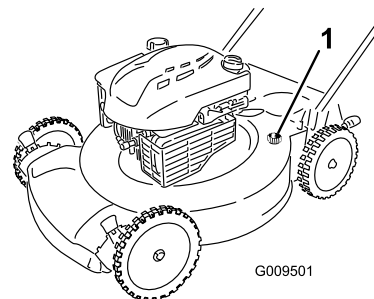

Figure 26
4. Attach a garden hose that is connected to a water supply to the washout port on the mower housing (Figure 26).